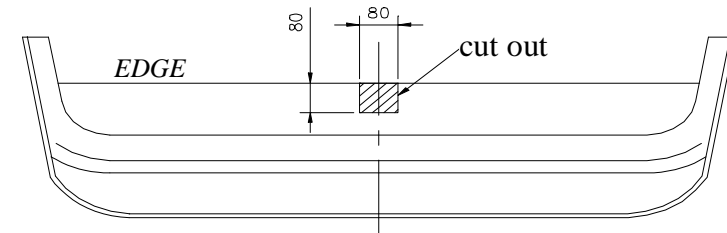

Fig. 2
2. For models till 1999; cut a hole, on the lower edge of the bowl of the bumper as shown in the fig. 2. For models from year 2000, you must check dimensions of cut out fragment.
3. Apply the main bar (pos. 1) to the chassis members of the car and twist in the designed places by the manufacturer, with screws M10x1,25x30mm (pos. 7).
4. Through hole of the towbar (pos. C) and original tow-eye, fix by M10x100mm bolts (pos. 6) using cut washers (pos. 5) and distance sleeves (pos. 11).
6. Fix body of the automat and place tow-ball according to supplied instruction. Note! Remember to place socket plate (pos. 3) as shown on the drawing 1.